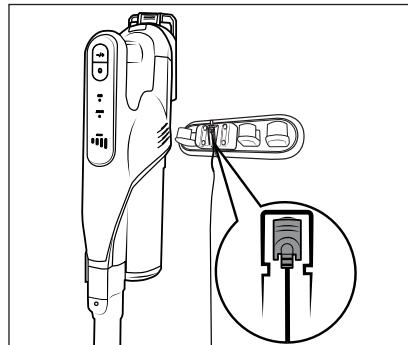

Fig. 6
- ◆ Place the vacuum cleaner in the wall bracket 17 from above so that the barrel plug 10 slips into the charging socket 2 on the bottom of the appliance. The battery indicator 26 starts flashing and the charging process starts (see Fig. 6 and 7).